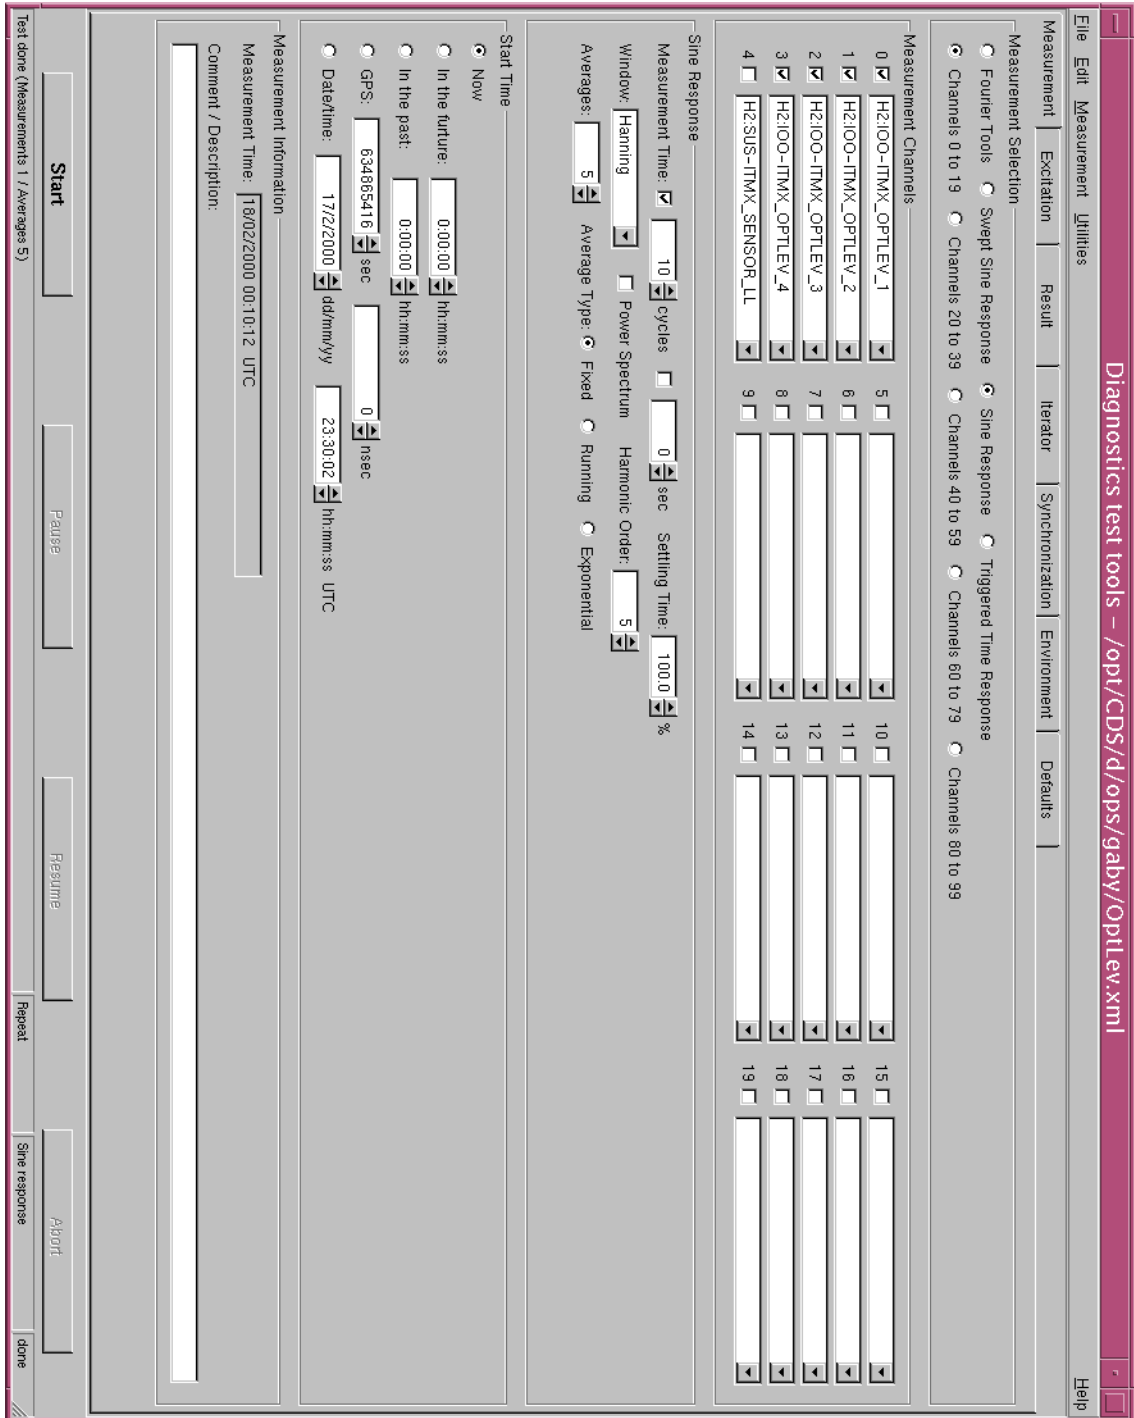

Figure 10: Typical Measurement pane settings in GDS for a measurement in the output matrix tuning procedure.
4. In channels 0 through 3 in the measurement pane (see Figure 10) select the optical lever signals (e.g., `H2:IOO-ITMX-OPTLEV1`, `H2:IOO-ITMX-OPTLEV2`, `H2:IOO-ITMX-OPTLEV3` and `H2:IOO-ITMX-OPTLEV4`). Do not include other channels - the analysis software assumes that there will be exactly four channels in the output file. In particular, do not choose the readback channel on this screen. If the readback channel selected on the Excitation pane (in the next step) is also selected on the Measurement pane, then when the Start button is pressed, GDS complains that it is unable to apply excitation. Choose a sine response with 5 averages of 10 cycles each, and 100% settling time.